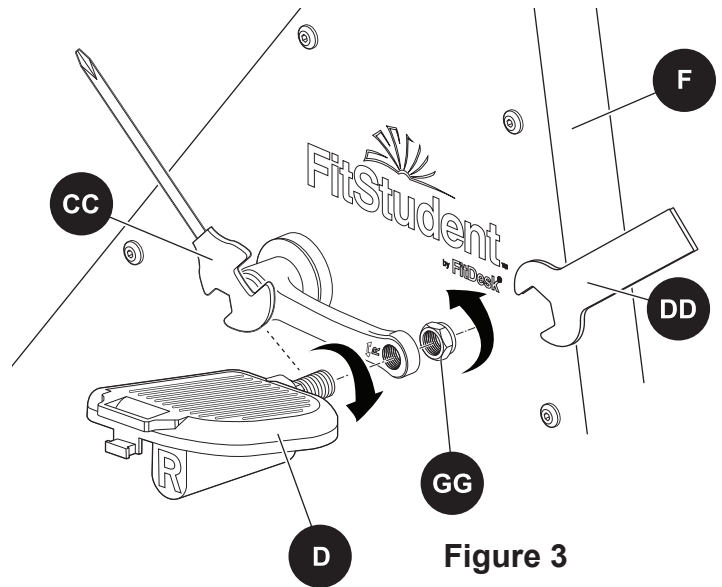

Figure 3
Step 3: Remove the nut from the Right “R” Pedal (D) and set aside for reinstallation. Using the Multi-functional Wrench (CC) (supplied), install the “R” Pedal onto the crank arm. Using the 19mm wrench (DD) (supplied), reinstall the nut and tighten (Right pedal not reverse thread). **Figure 3**